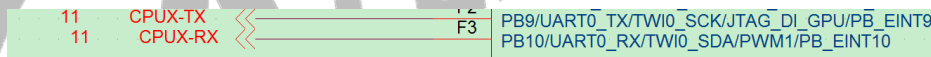

Figure 2-18 UART0 Debugging Serial Port
- The UART0 is used for system debugging and printing by default. It is recommended to reserve test points for system debugging and printing. As shown in Figure 2-18.